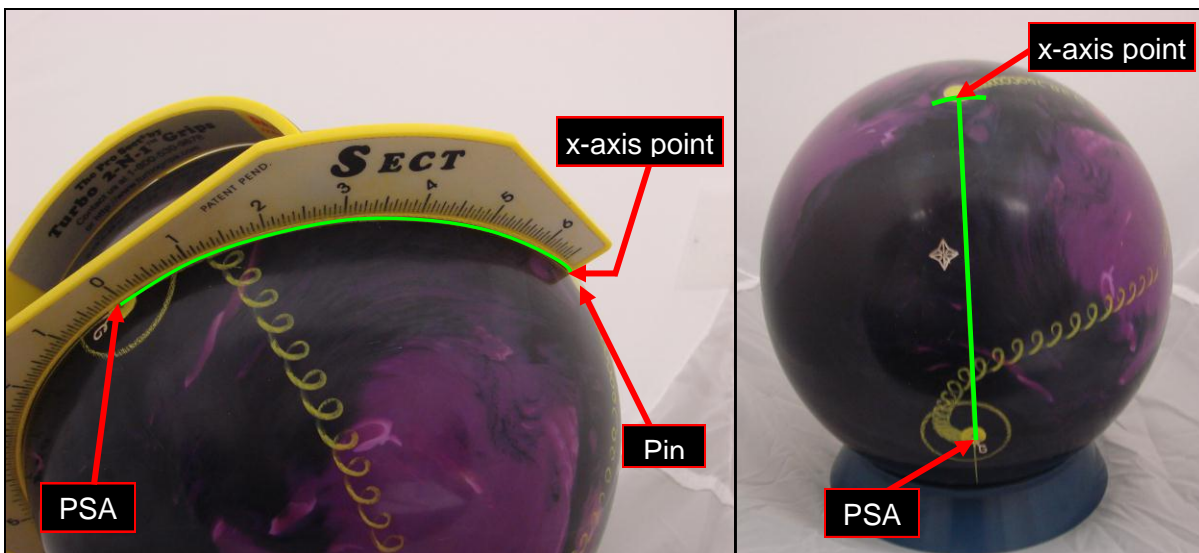
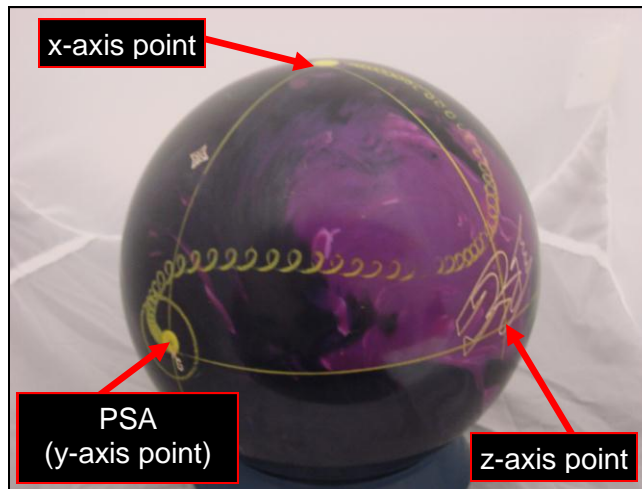

Figure 2 – The green line drawn $6\frac{3}{4}$ " from the PSA towards the pin locates one end of the x-axis of the bowling ball (the low RG).
Figure 4 - X-axis point, PSA and z-axis point labeled relative to each other.
10. Draw a line, using the grease pencil, from the PSA on the bowling ball through or towards the pin. This line is shown in green in Figure 2. Mark the point $6\frac{3}{4}$ ” from the PSA towards the pin. This mark characterizes one end of the x-axis of the bowling ball. Figure 2 shows the marked PSA and the line drawn $6\frac{3}{4}$ ” from the PSA towards the pin of the bowling ball.
11. Draw a line with the grease pencil using the Pro Sect that is perpendicular to the line drawn in step 10 and highlighted in green in Figure 2 by placing the "0" mark of the Pro Sect on the x-axis marking. Mark one end of the z-axis by making a mark with the grease pencil $6\frac{3}{4}$ " away from the x-axis point along the line that is perpendicular to the line drawn in step 10. Figure 3 shows the z-axis point 90 degrees away from the x-axis. The z-axis point is also mutually perpendicular to the y-axis point (PSA) and the x-axis point which is further illustrated in Figure 4.